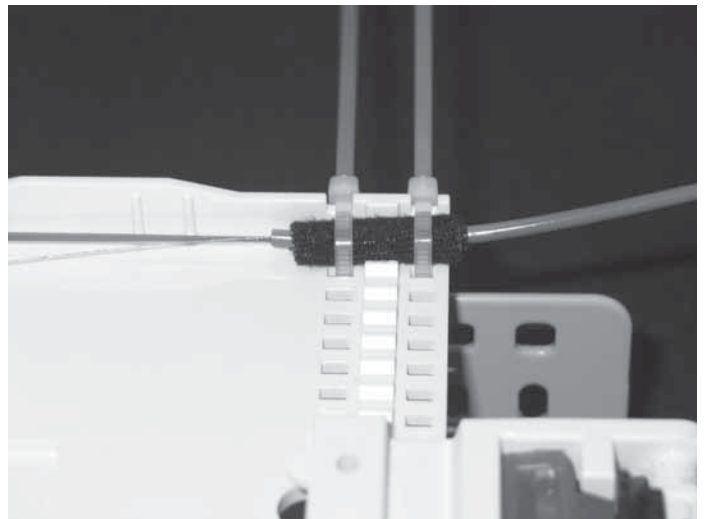

Figure 9
4. Wrap the end of the tubes with loose buffer tube (LBT) wrap and attach them to the tray with two tie wraps. (Figure 9)